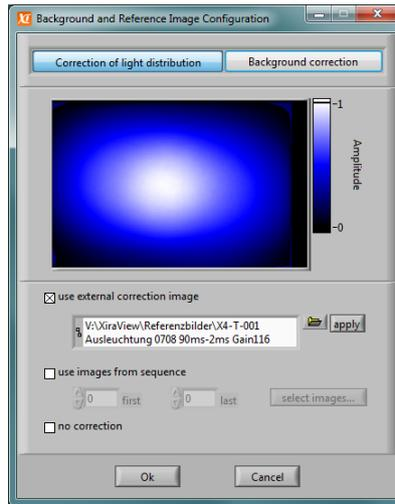

Figure 3.18: Dialog window for editing background and reference image correction
**Underground and reference image selection:** Opens a dialog window for editing background and reference image correction of the current case record file (see Figure 3.18).